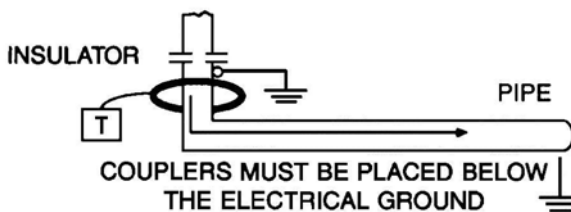
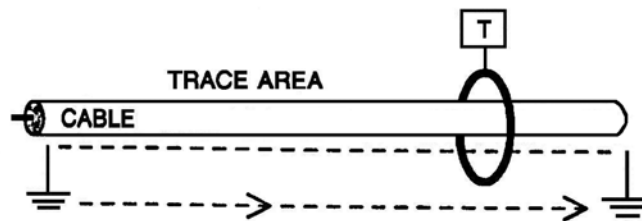

Figure 4-2: Inductive Coupling with the Metroclamp
Figure 6-1: Ground on Either Side of Trace Area
- 2 Place the Metroclamp around the conductor, below the electrical ground. (See Figure 4-2). Make sure that the clamp jaws are completely closed.
Power lines and telephone sheaths are assumed to be grounded. If the conductor is a pipe which has an insulated joint, such as a gas pipe with a meter, use the jumper cable (refer to Figure 4-2). Attach each end of the jumper cable on opposite sides of the insulator. (See Figure 6-1).